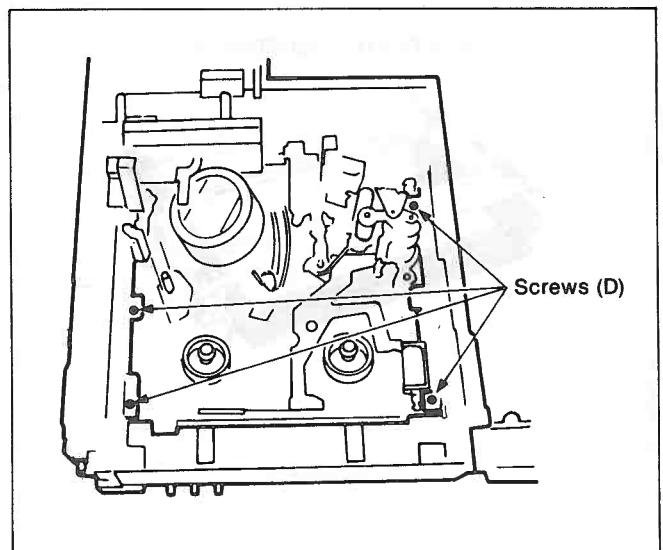

Figure M67
5. Tighten the 4 screws (D) as shown in Figure M67.